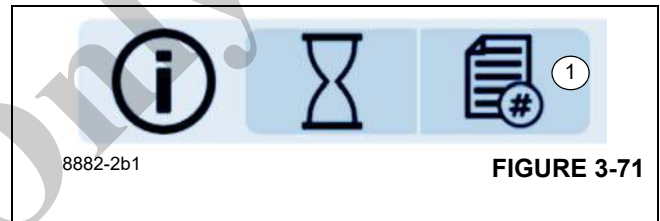

FIGURE 3-71
To open the software version menu select the Icon (1), (Figure 3-71).